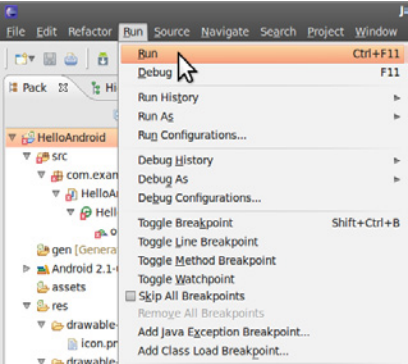

Figure 6-16. Running the project
- 8. Run the program by clicking the green Play button in the toolbar or by choosing Run→Run (Ctrl+F11), as shown in Figure 6-16.